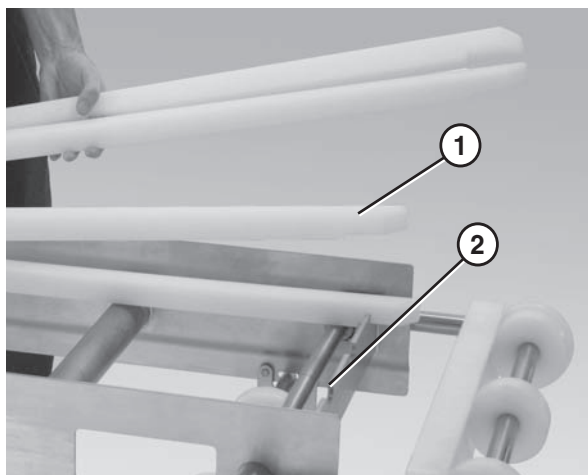

Figure 23
1. Position the wear strips (**Figure 23, item 1**) on the frame.
2. Make sure the wear strips are situated securely in the frame slots (**Figure 23, item 2**).